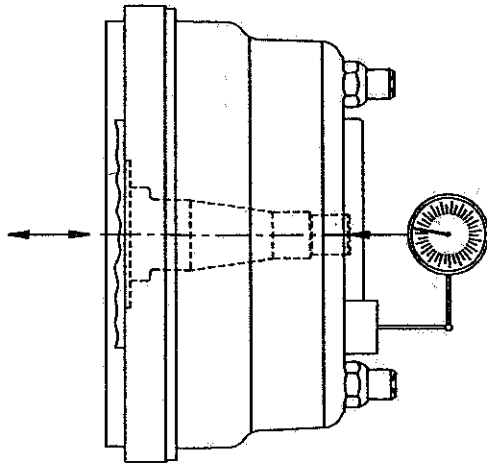

Figure 16 - Wheel Endplay Measurement
6. Attach a dial indicator with a magnetic base to the face of the hub. (See Figure 16). Note the brake drum is shown for reference only.